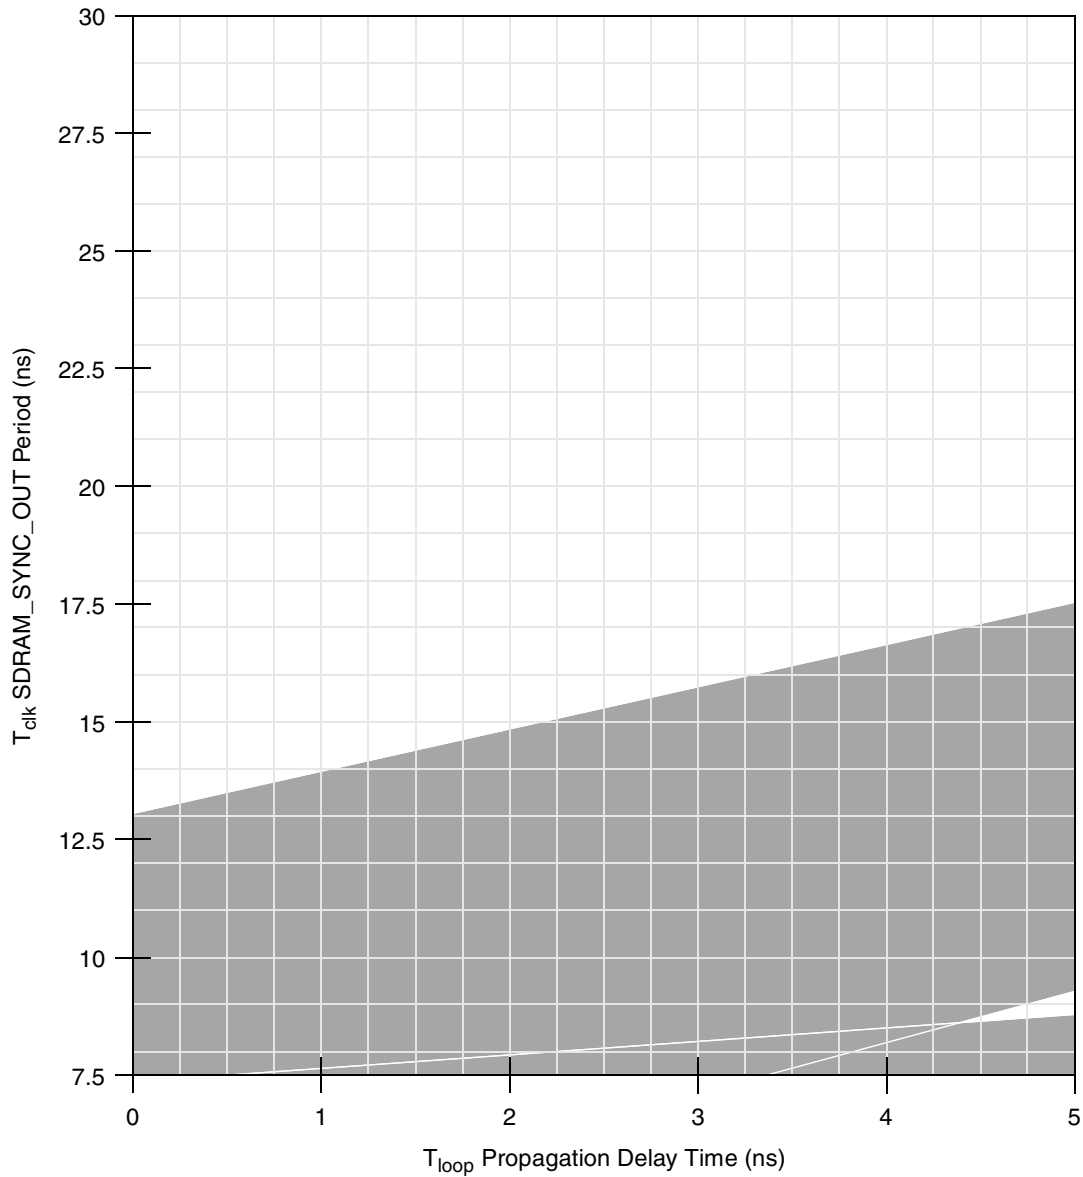
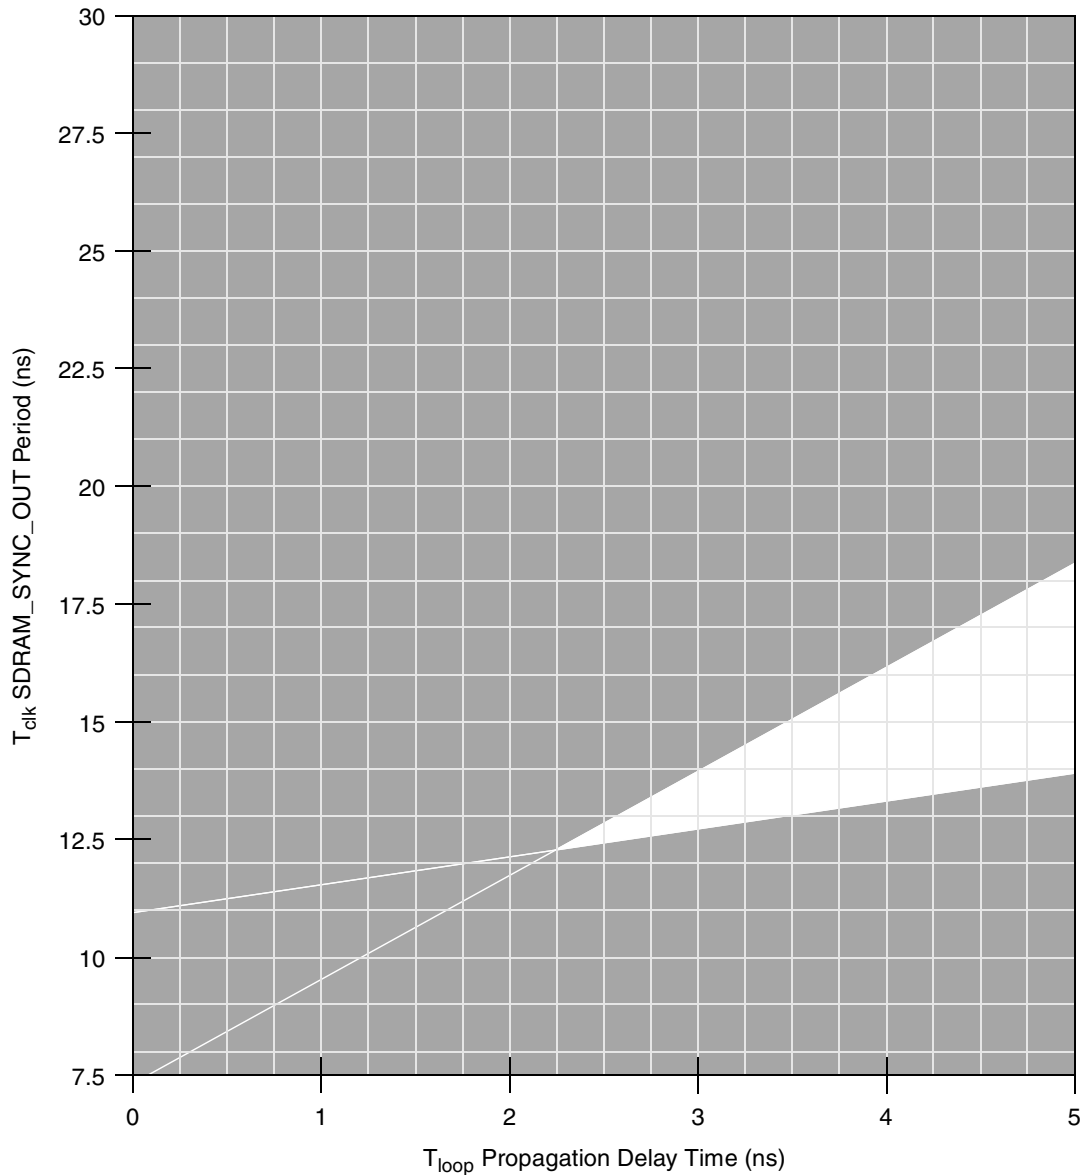

Figure 7. DLL Locking Range Loop Delay versus Frequency of Operation for DLL_Extend=0 and Normal Tap Delay
Figure 10. DLL Locking Range Loop Delay versus Frequency of Operation for DLL_Extend=1 and Max Tap Delay
- DLL_EXTEND is bit 7 of the PMC2 register <72>. N is a non-zero integer (see Figure 7 through Figure 10). T_{clk} is the period of one SDRAM_SYNC_OUT clock cycle in ns. T_{loop} is the propagation delay of the DLL synchronization feedback loop (PC board runner) from SDRAM_SYNC_OUT to SDRAM_SYNC_IN in ns; 6.25 inches of loop length (unloaded PC board runner) corresponds to approximately 1 ns of delay. For details about how Figure 7 through Figure 10 may be used, refer to the Freescale application note AN2164, *MPC8245/MPC8241 Memory Clock Design Guidelines*, for details on MPC8241 memory clock design.
Figure 6 shows the PCI_SYNC_IN input clock timing diagram, and Figure 7 through Figure 10 show the DLL locking range loop delay versus frequency of operation.